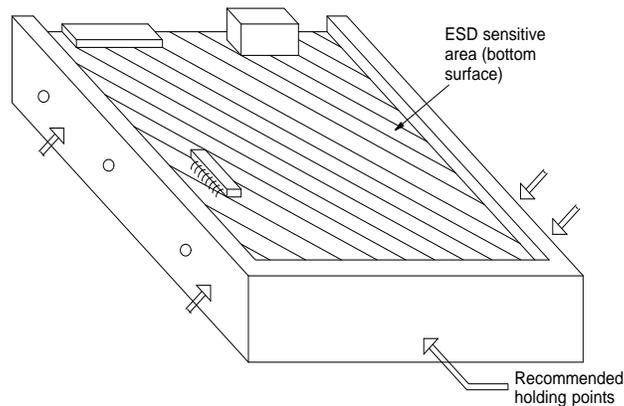

Figure 2-4. ESD-Sensitive Area of an Electronic Component
- Hold devices such as a hard disk, floppy drive, or streaming tape in the same manner as a large circuit card. The ESD-sensitive area of these components is located on the bottom surface (Figure 2-4).